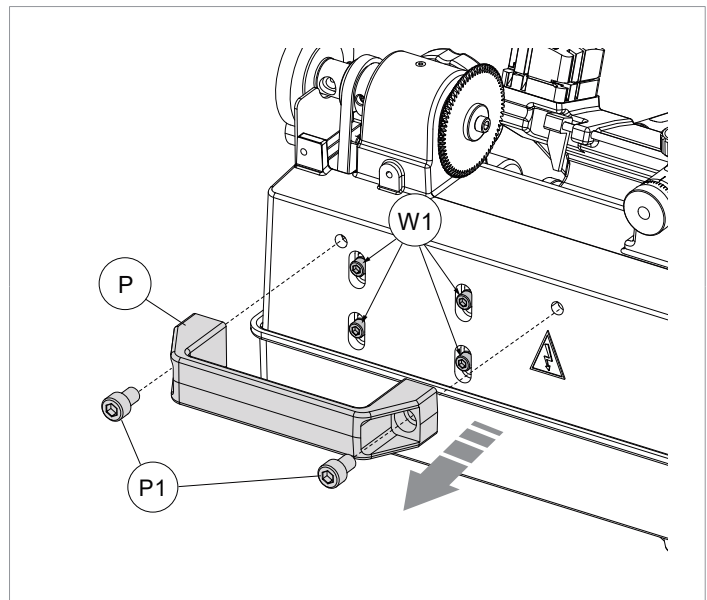

Fig. 50
- 2) Remove the handle (P) after removal of the 2 screws (P1) (Fig. 50).
- 3) Loosen the 4 motor fixing screws (W1) (Fig. 50).